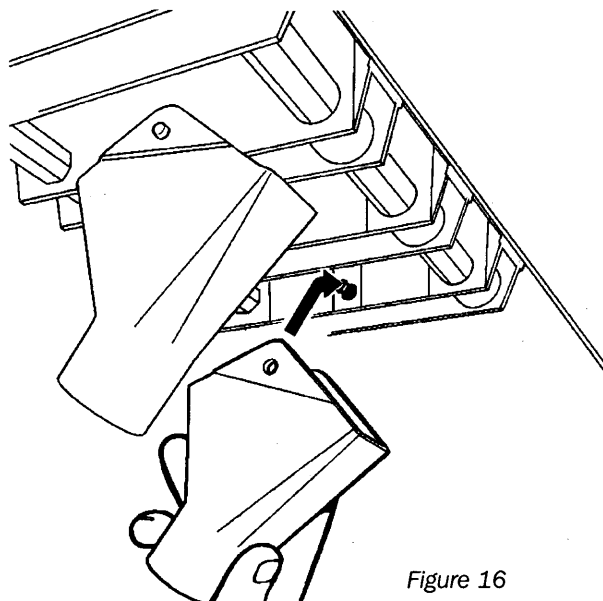

Figure 16
- a) Remove the rubber boot from the retaining lugs on the fluted roller housing (See figure 16).